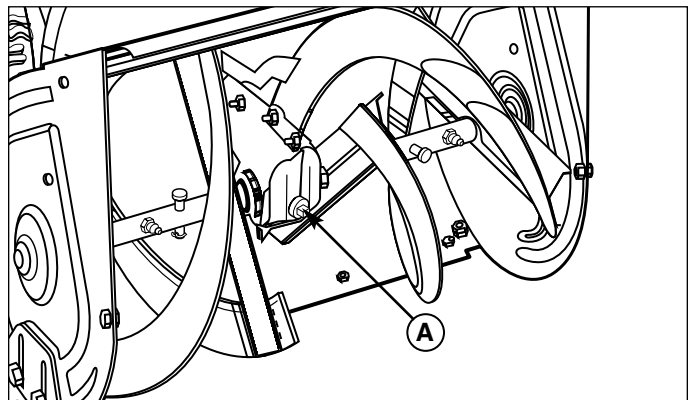

Figure 11. Auger Lubrication
2. Remove the pipe plug (A, Figure 11).